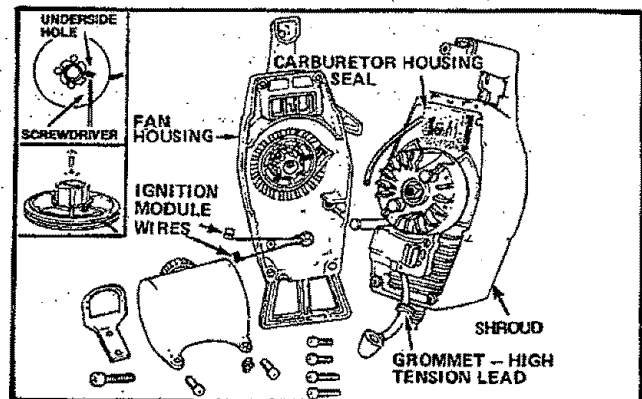

Figure 19
7. Disconnect ignition module wires. Figure 19.
9. Separate the fan housing completely from the shroud. Figure 19.
15. Guide rope inside pulley and up through the topside pulley hole to the outside by pushing the rope from the underside hole with a small object such as a Phillips screwdriver. See insert, Figure 19.
**NOTE:** While the unit is disassembled, inspect the carburetor housing seal and replace if worn. Figure 19.